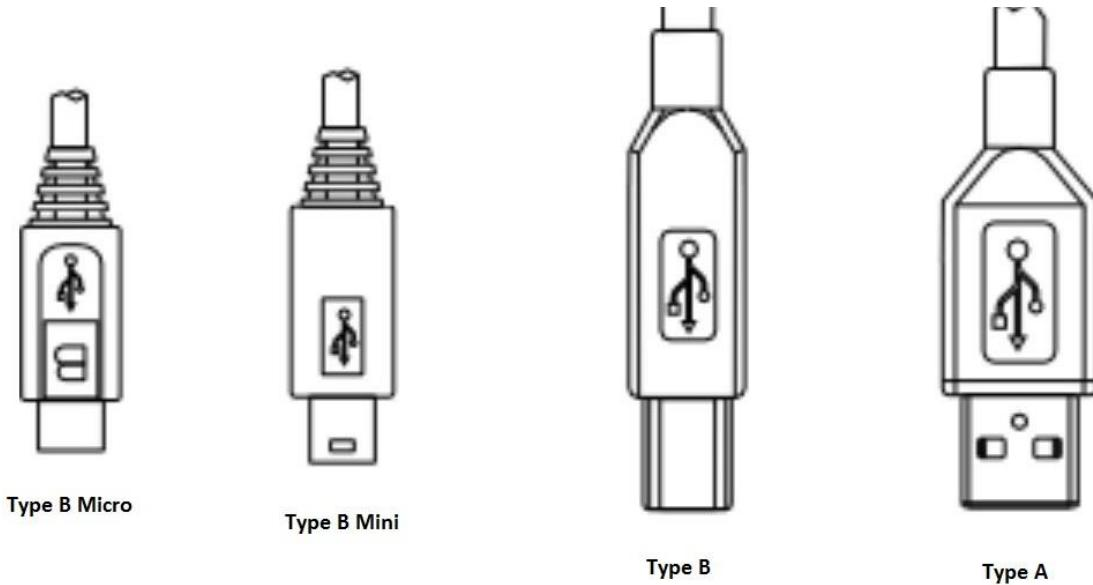

Figure 19: USB Connectors
- Plug the large end (Type B) of the USB cable into the Fidelio configuration/charging station base and the smaller end (Type Mini B) into the micro USB port located on the right-hand side of the Fidelio touchscreen tablet (Figure 19 and Figure 20). This USB cable connection is essential to configuring Fidelio Receivers to specific auditoriums along with their audio channel assignments.